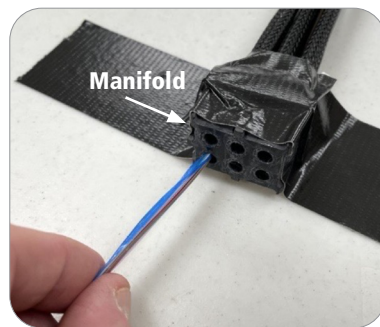

Figure 6a – Manifold taped to flat surface
- C. Insert each fiber sub-group into the manifold for routing into the individual fanout tubes/breakout mesh (**Figure 6a**) until the fiber emerges from the end.
It is recommended to start the first sub-group at the bottom left of the manifold and work from left to right within the row, then upward when each row is complete (**Figure 6a**).